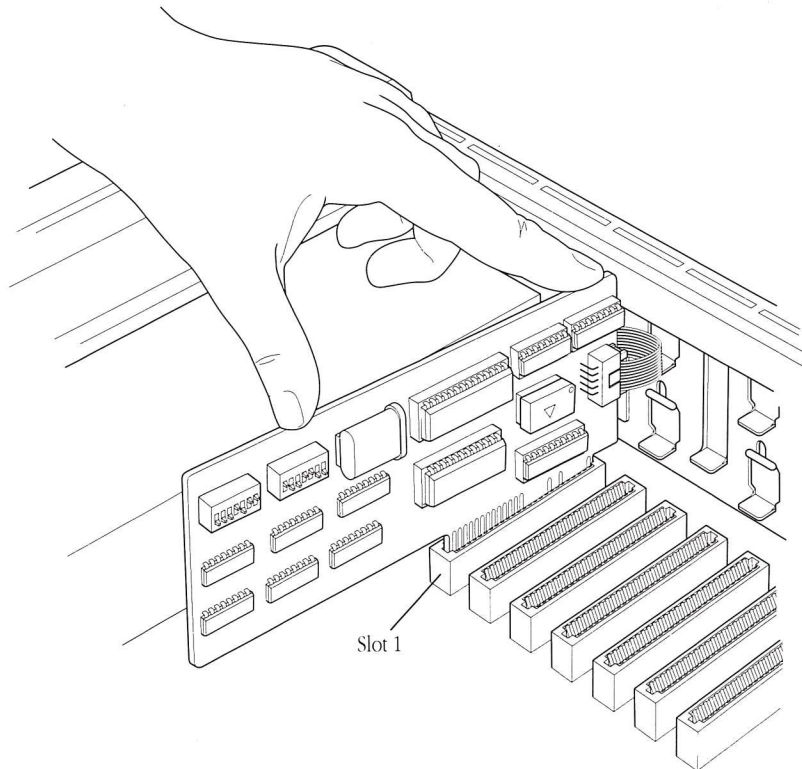

Figure 4-13 Installing the Super Serial Card in slot 1
5. Put the card in slot 1. Install the card by rocking from back to front as shown in Figure 4-13.